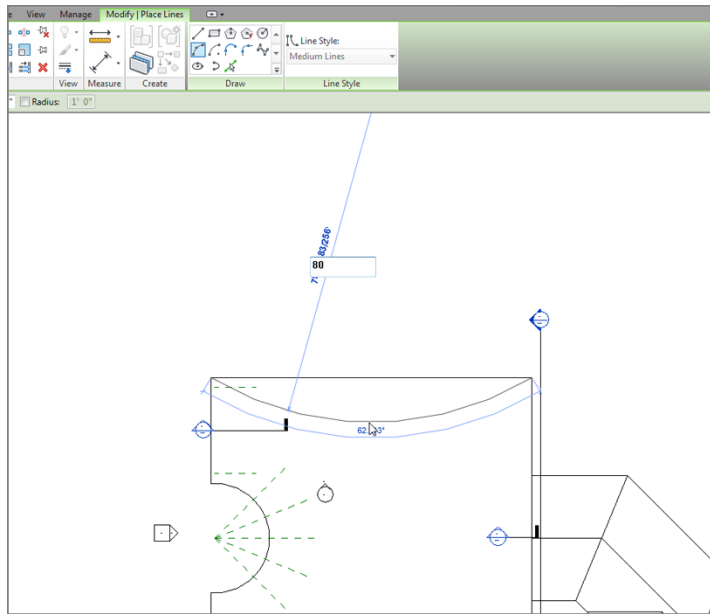

FIGURE 12.80: Drawing an 80'-0" (24m) radius arc
8. On the Draw panel, click the Start-End-Radius Arc button, as shown in Figure 12.80.
9. Draw an arc from the two endpoints shown in Figure 12.80. Make the radius 80'-0" (24000mm). Simply enter the numbers on the keyboard and press Enter, and they will fill in the radius field. Click Modify.